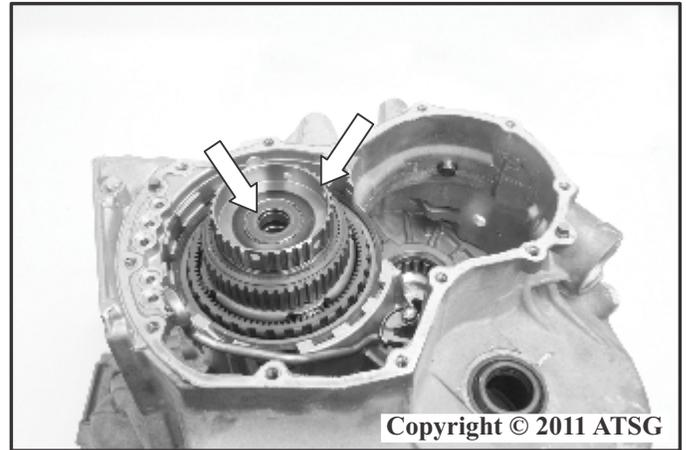

Figure 54
83. Remove the input shaft thrust bearing assembly as shown in Figure 54.
84. Remove the rear sun gear assembly and the rear sun gear thrust bearing assembly as shown in Figure 54.